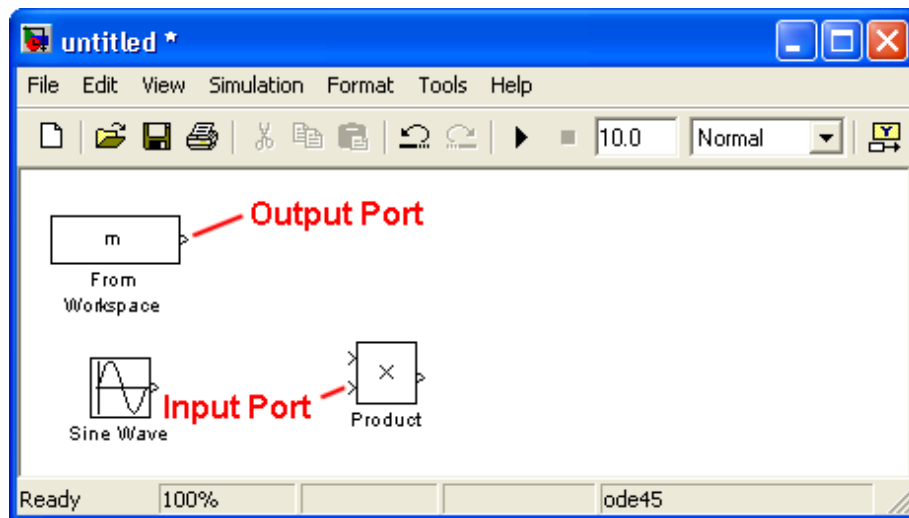

Figure 15: Port Definition
1. The blocks in the design window must now be connected to complete the model. This is simply done by using a line to connect an Output Port to an Input Port, which are both defined in Figure 15.